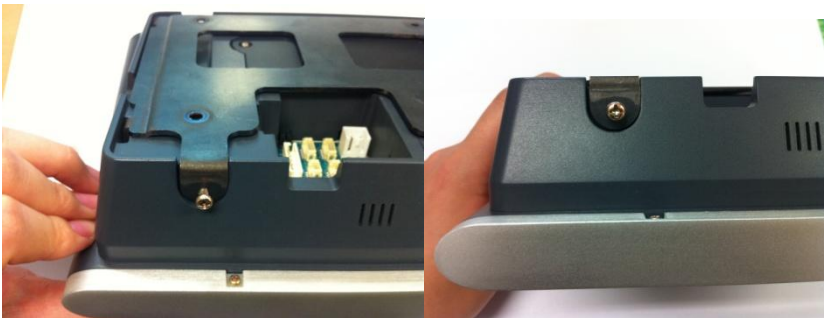

Figure 3.8 Fastening the terminal with bracket
- ② Fasten terminal with bracket using bolts as shown in Figure 3.8